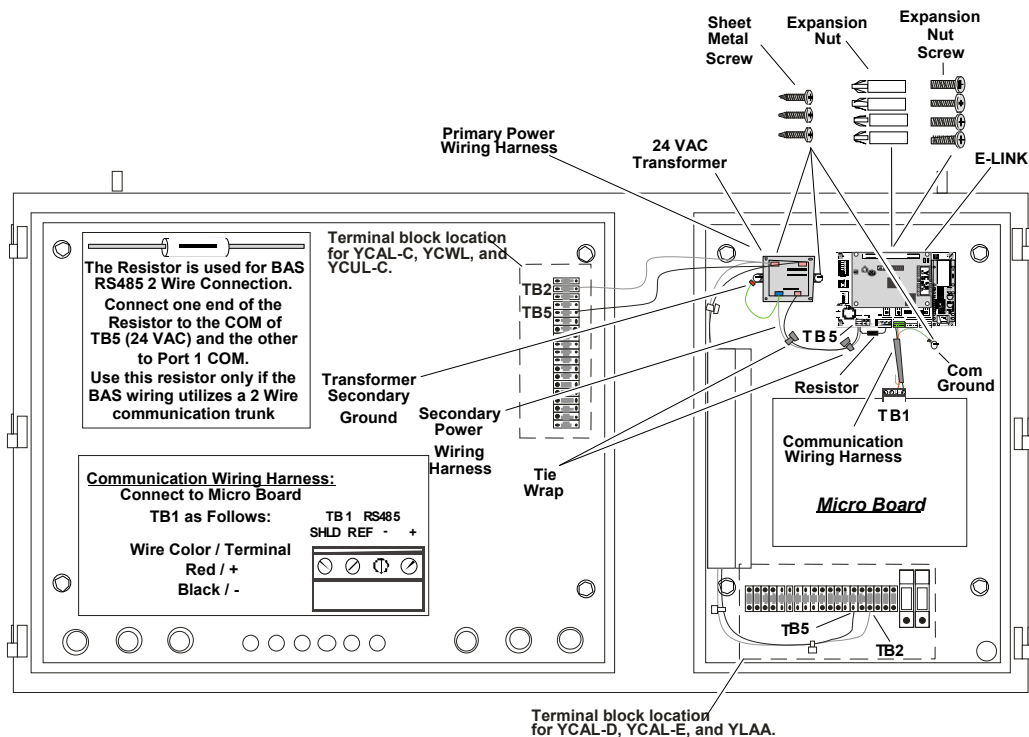

FIGURE 3 - IPU-II PANEL INSTALLATION (INSTALLATION KIT NOT AVAILABLE IN EUROPE)
1. Attach the E-Link Gateway board to the panel in the upper right side of the enclosure using the four expansion screws and nuts provided in the IPU-II Panel Installation Kit (see Figure 3).
2. Attach the 24 VAC transformer to the panel to the left of the E-Link board using two screws (see Figure 3).